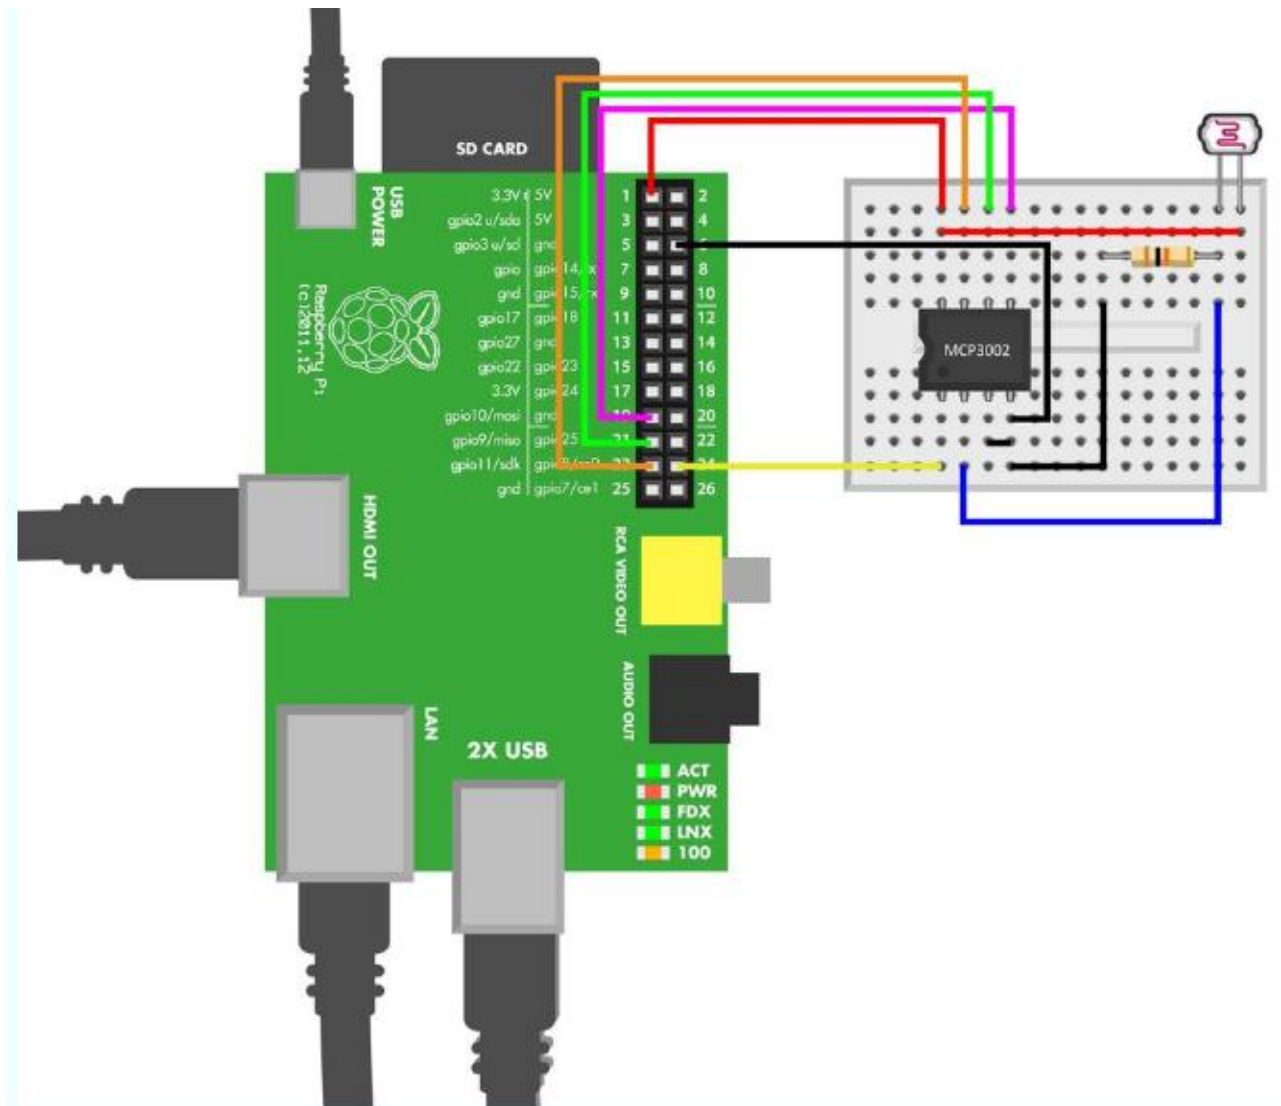

Figure 7-10. Photoresistor circuit for Raspberry Pi
- Connect the components as shown in Figure 7-10, and then run the code shown in Example 7-4.